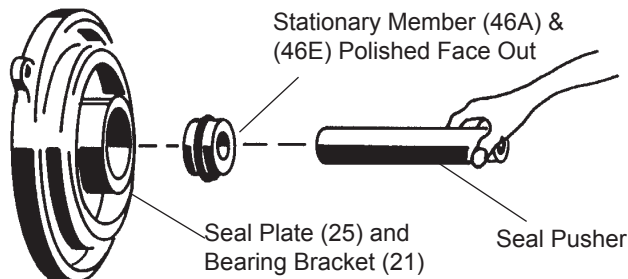
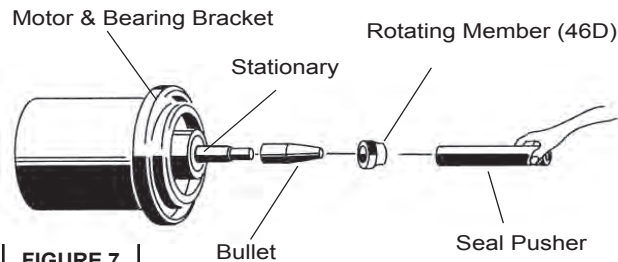

FIGURE 6
FIGURE 7
Make sure the stationary members are in straight and that the rubber ring is not out of it's groove. Lightly oil (**DO NOT use grease**) shaft and inner surface of bellows on rotating member (46D) See Figure 7. With lapped surface facing bearing bracket (21), slide rotating member (46D) onto shaft, using seal pusher, until lapped faces of (46D) and (46E) are together (See Figure 6). It is extremely important to keep seal faces clean during assembly. Dirt particles lodged between these faces will cause the seal to leak.